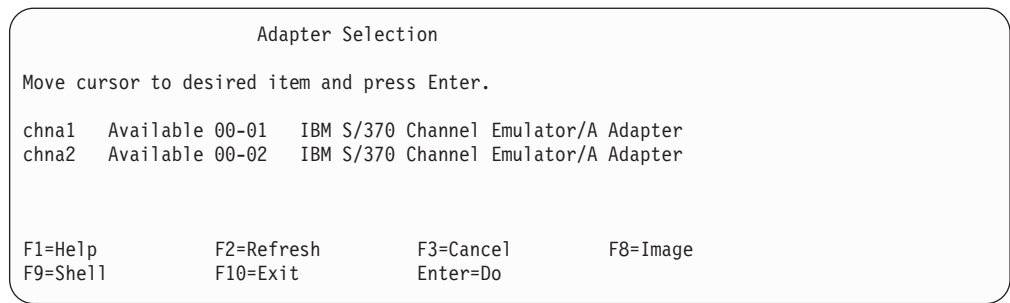

Figure 21. SMIT Adapter Selection Panel
3. Select Load Driver onto S/370 Channel Emulator/A Adapter. The Adapter Selection panel (Figure 21 on page 69) displays.